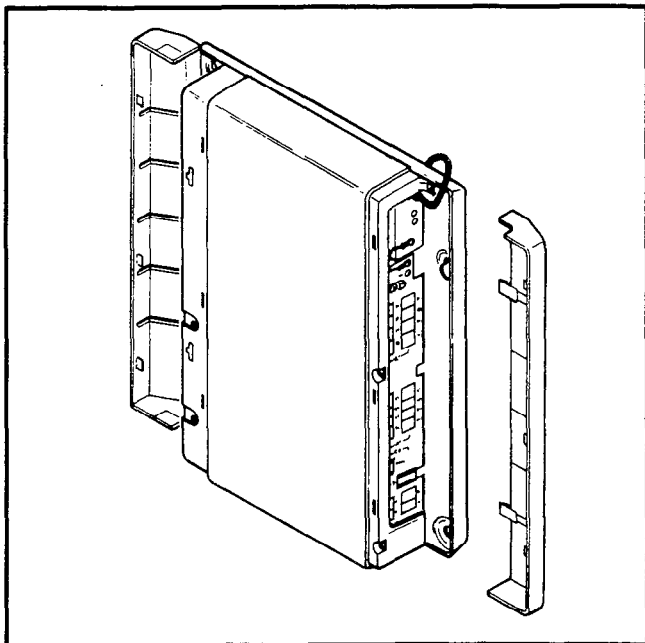

FIGURE 2—HKSU SIDE COVERS
1) Remove both side covers from the HKSU (refer to Figure 2) by pressing in on the two small ribbed sections on each side cover to free the holders.